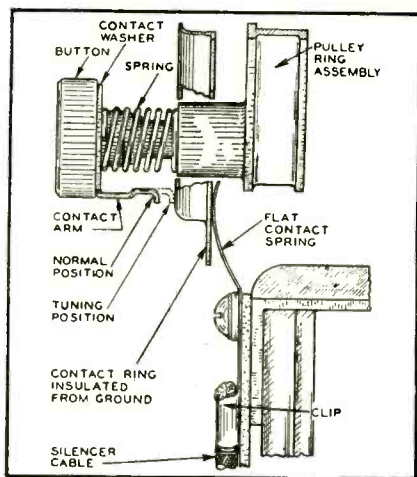

Fig. 1. Silencer assembly.
When a telephone dial button is depressed, a circuit is established between the ungrounded end of the volume control and the chassis ground. Referring to Fig. 1, contact is made between the line from the volume control, contact ring, contact washer arm (when button is depressed), spring and pulley ring stud. Since the pulley ring is at ground potential, this grounds the audio voltage and no signal will be heard until the button is released to break the contact.
*If noise occurs on all buttons:* This is probably due to a poor contact between the flat contact spring and the contact ring. See Fig. 1. Clean the flat contact spring and contact ring to insure a good electrical connection. Ordinary cleaning fluid may be used and will be effective in most cases in cleaning the surface without affecting the plating. If the contact is still not satis-
*If noise occurs on one button only:* This is due to a poor contact between the pulley ring stud, spring, contact washer, and contact ring. See Fig. 1. Clean all of these items of the particular button, in the same manner as mentioned previously, so as to provide a good electrical connection.